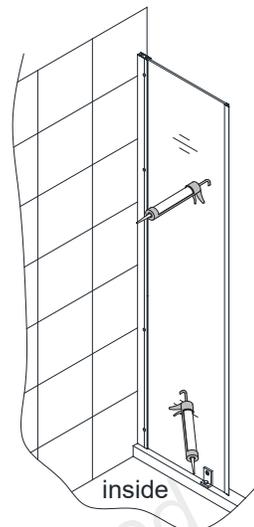

Fig 9a
9. Apply a good quality mildew-resistant silicone along the connection of the **Wall Profile (#09)** to the wall and the panel glass to the threshold. (**Fig 9a**)